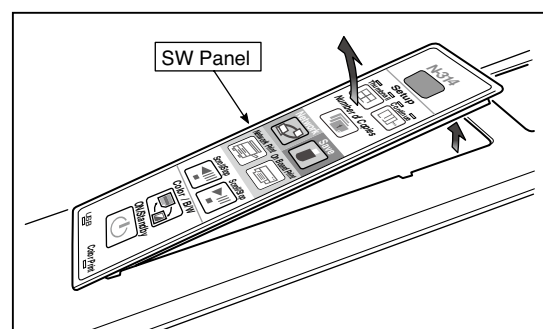

Fig.16
1. Disconnect the CIS Cable (FFC), shown in the figure 16, from a connector.